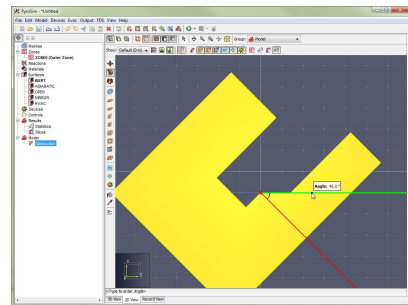

Figure 96. Define angle vector
5. Single-click a third point to define the **angle vector** from the first point to the third point (Figure 96).